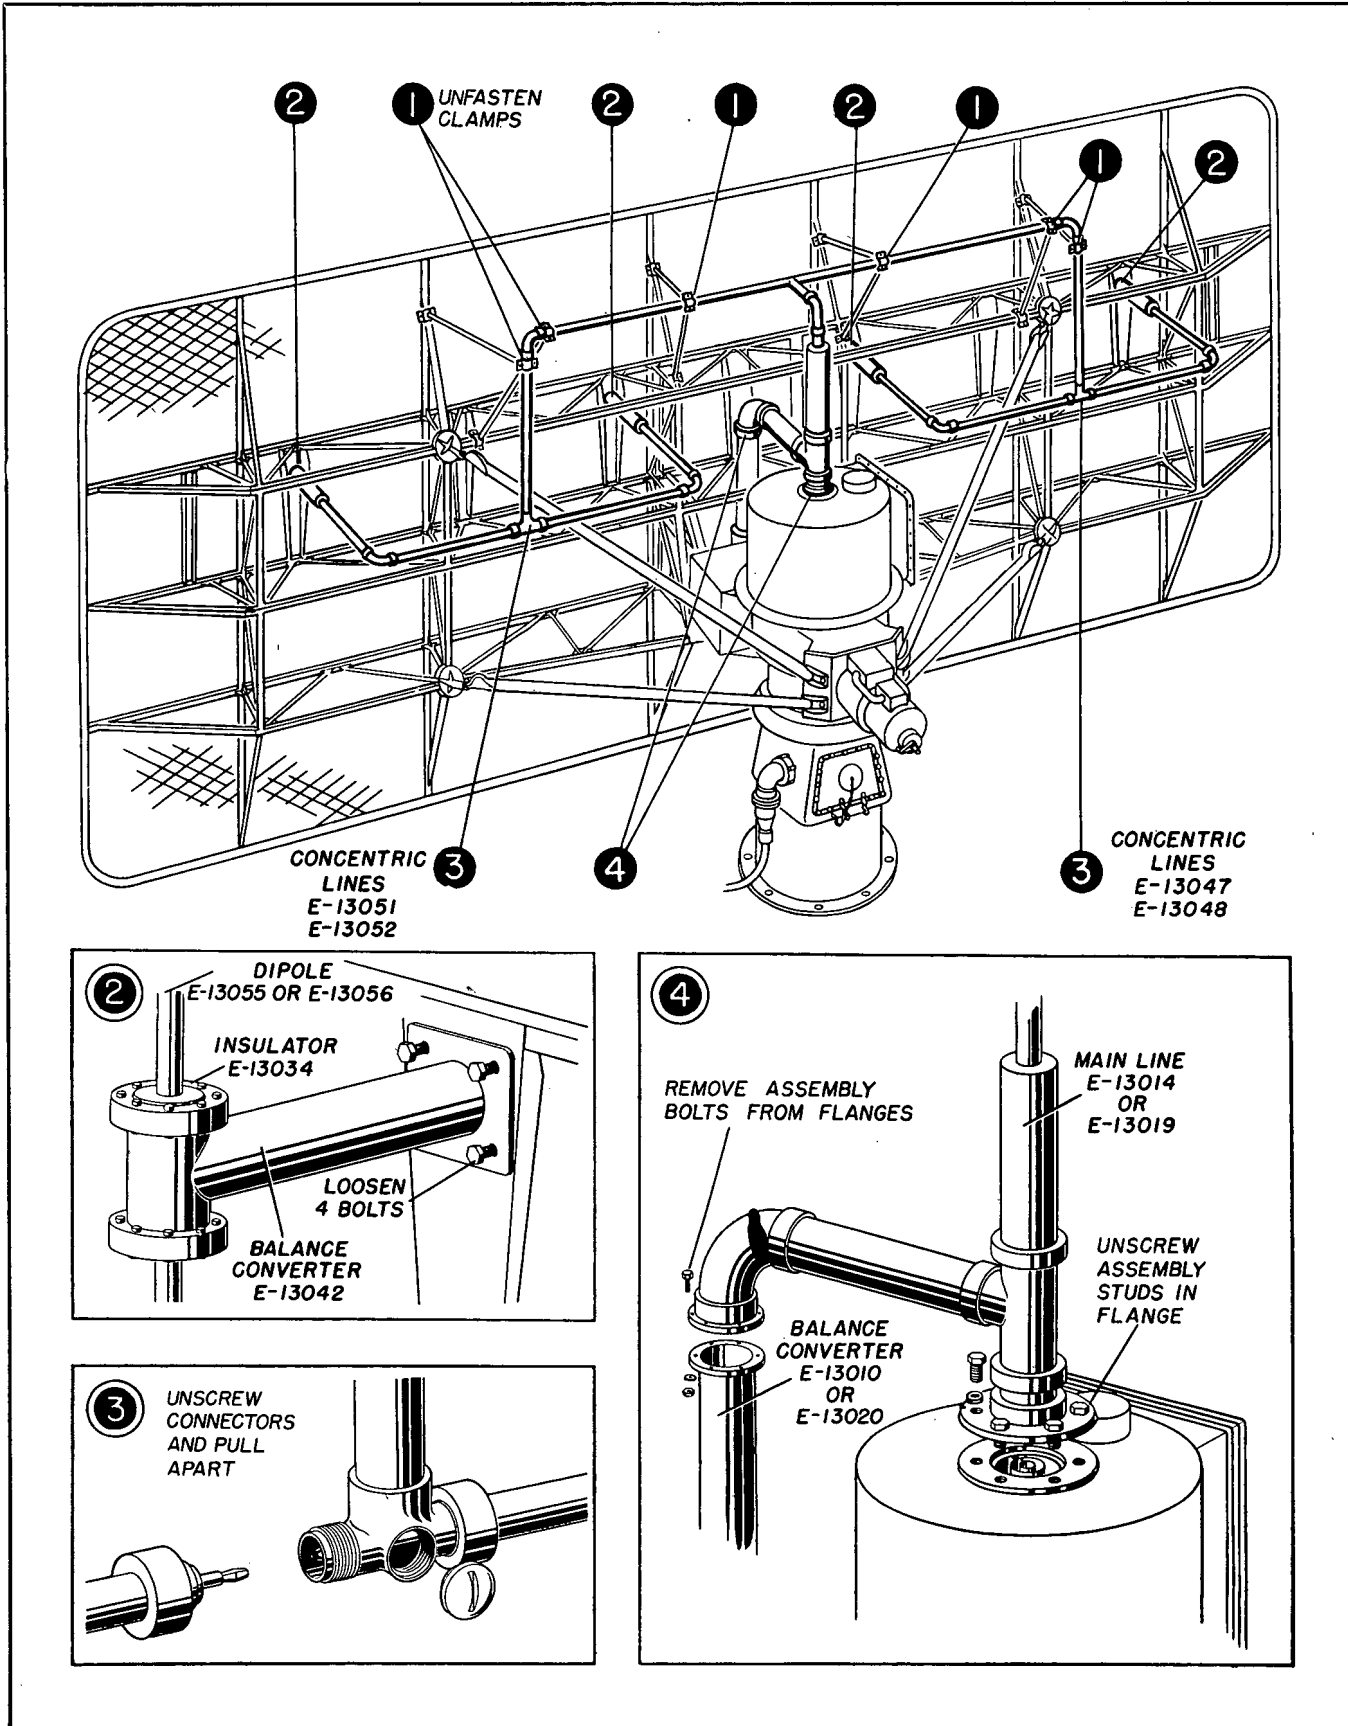
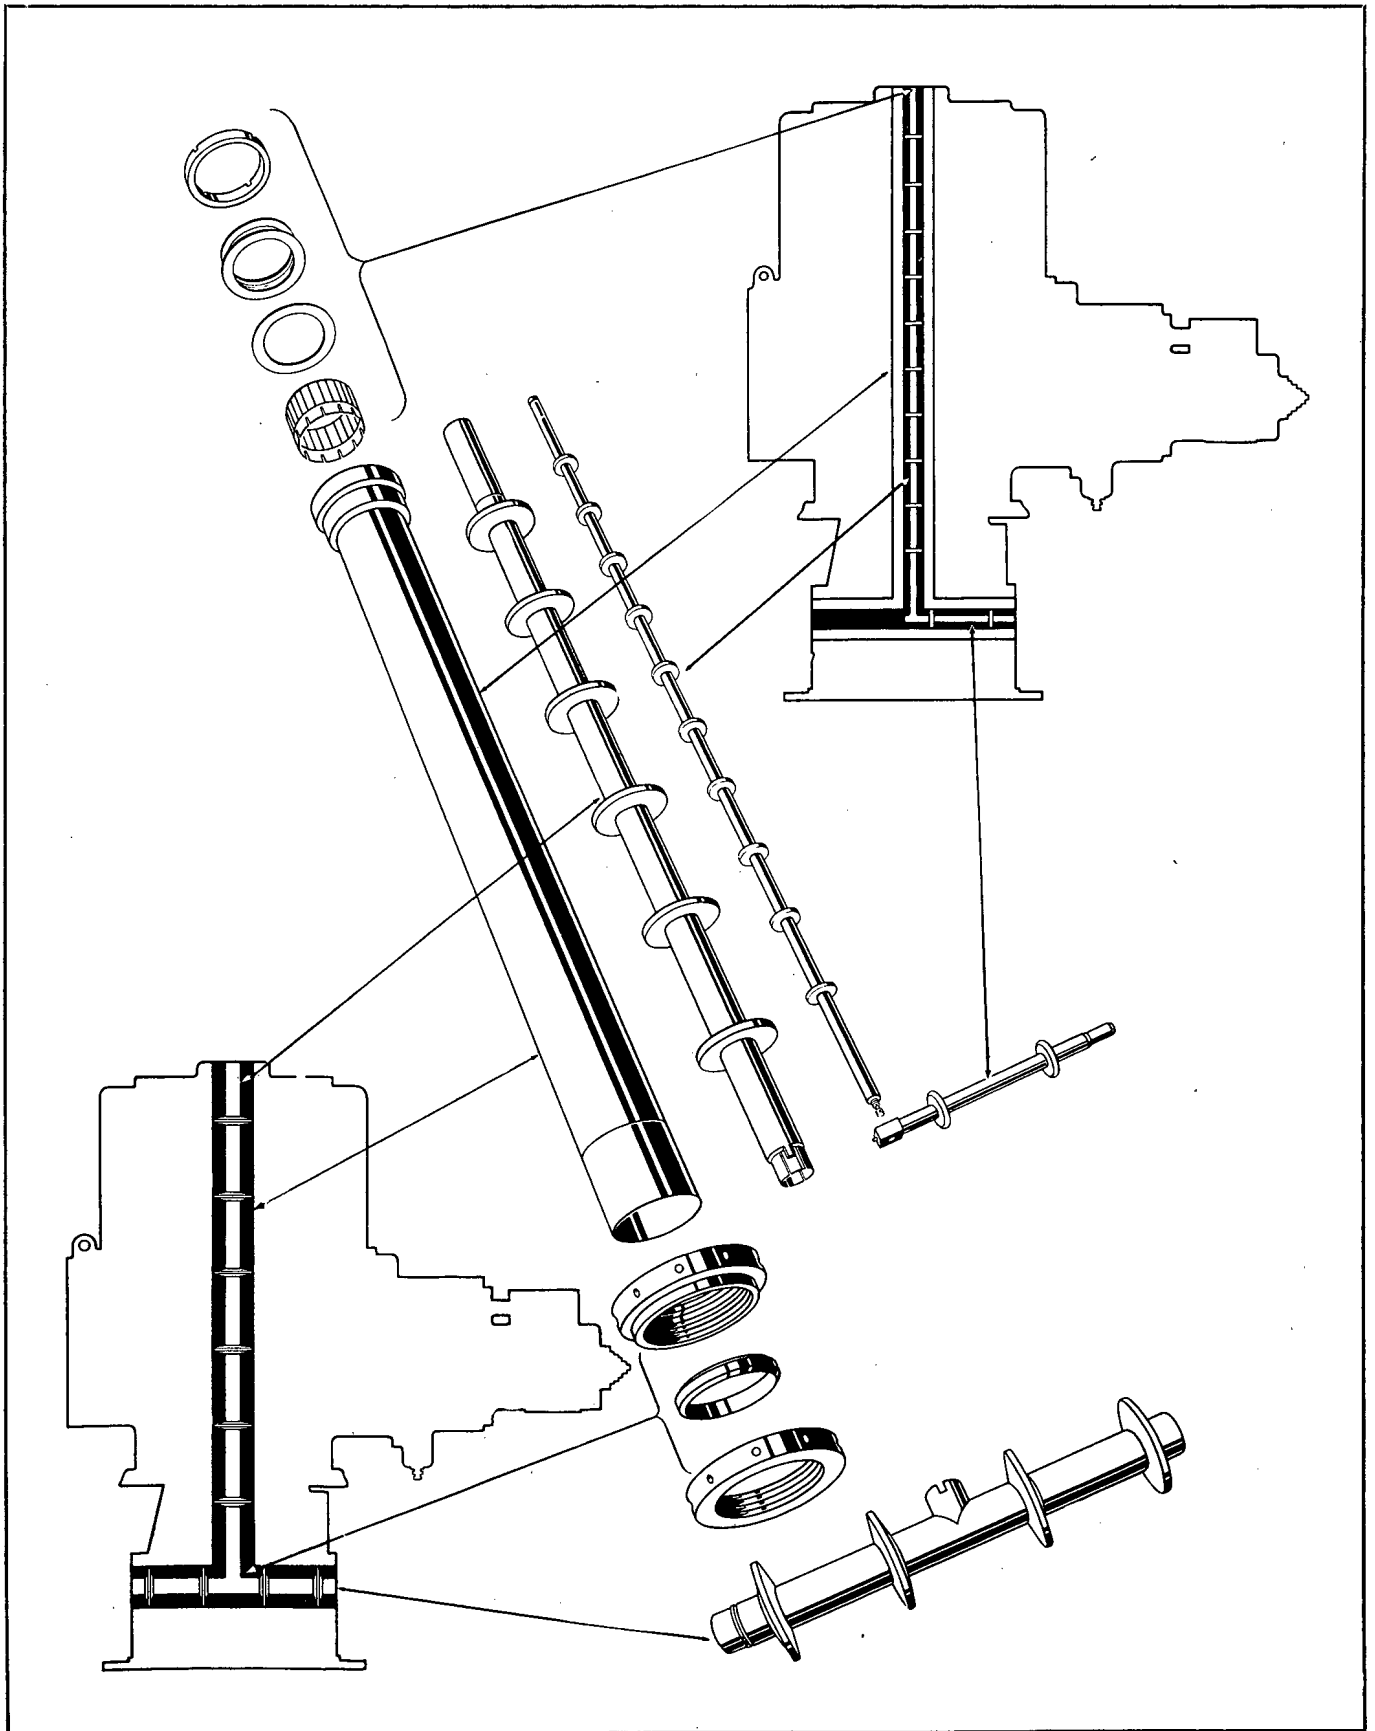
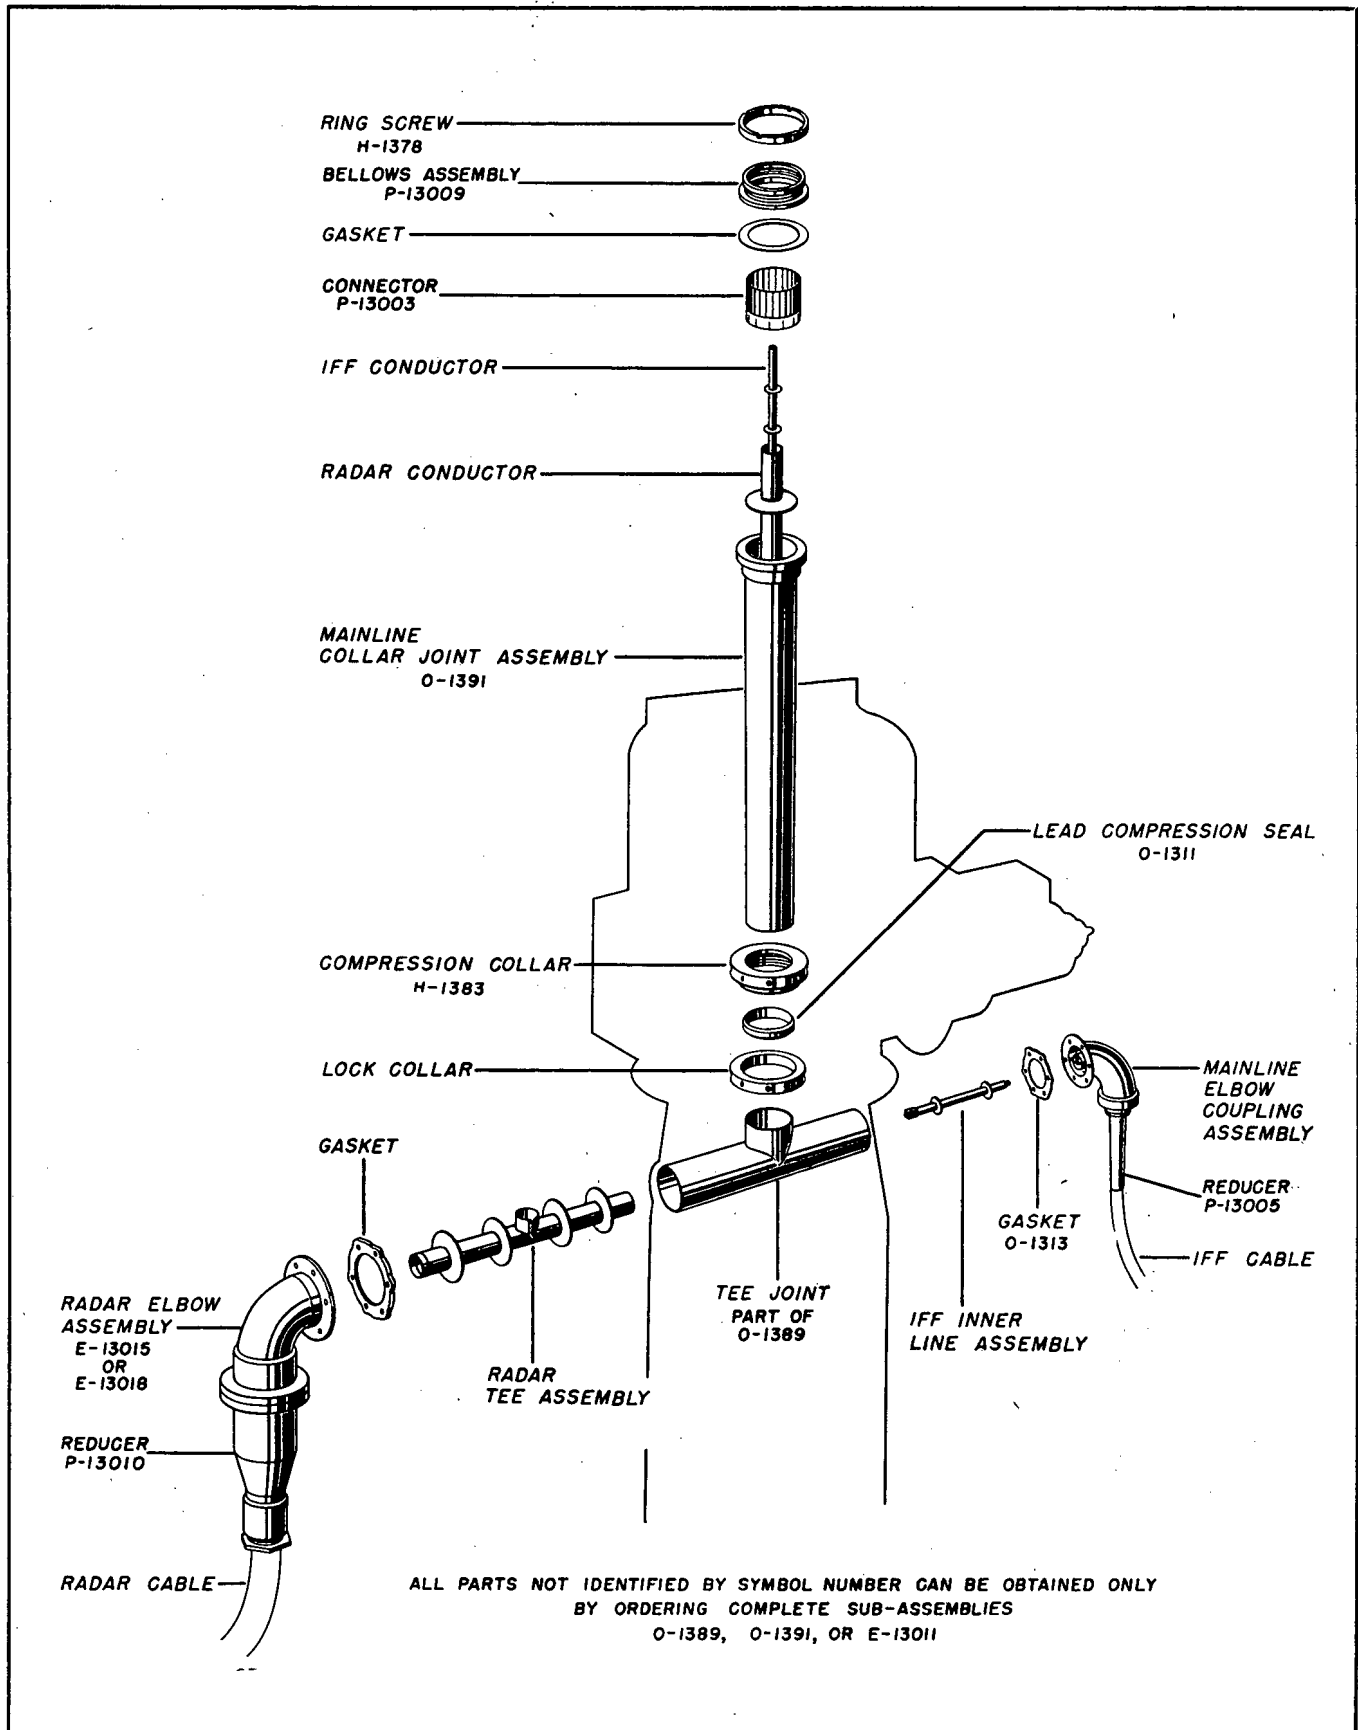
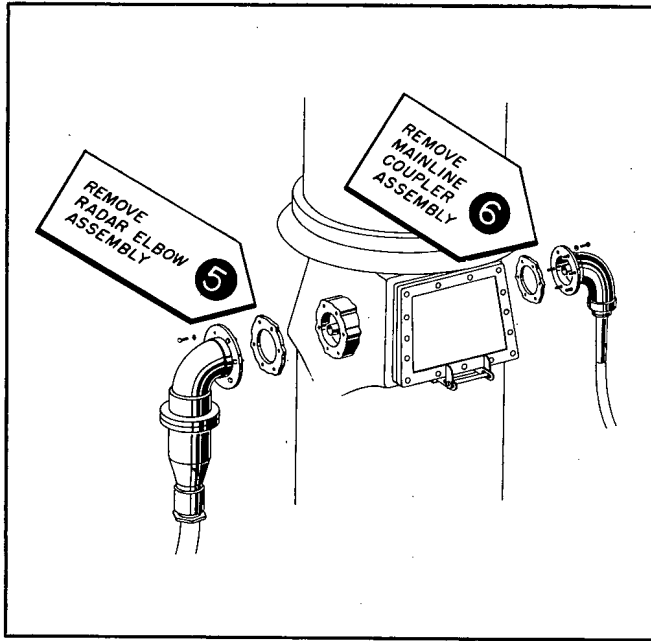

Figure 7-87. Disassembly of IFF Transmission Line
Figure 7-88. R-F Lines in Antenna Pedestal, Schematic Diagram
Figure 7-89. R-F Lines in Antenna Pedestal, Exploded View
Figure 7-90. Disconnecting R-F Lines at Base of Pedestal
(1) In any disassembly work on the Antenna Pedestal, the Antenna assembly is removed as one piece. However, it is necessary to remove the IFF Antenna and transmission line separately whenever these parts suffer damage or whenever it is necessary to change the IFF frequency band. The removal of the IFF transmission line is shown in Fig. 7-87. The first step is to remove the clamps that hold the transmission line to the frame as indicated in Step 1 in Fig. 7-87. If only the transmission line is to be removed, loosen the mounting bolts that secure the antenna bazookas to the frame as shown in Step 2. This permits the T-joints on the transmission line to come
apart. The disassembly of the T-joints is shown in Step 3. Unscrew the knurled nuts on each side of the T-joints and pull the line apart. Whenever this step is reversed in assembly, be sure that the banana plug on the end of the inner conductor is inserted properly in the T-joint. The plug on the side can be removed if necessary, so that the inner conductor of the T-joint can be seen. Step 4 shows the removal of the transmission line from the dome of the Antenna Pedestal and the top of the bazooka of the radar antenna. After this step is performed, the transmission line may be lifted out of the brackets. The line is installed by reversing the steps shown in Fig. 7-87.
(1) Whenever it is necessary to disassemble the r-f lines in the Antenna Pedestal, it is necessary to remove the antenna assembly from the Pedestal or to remove the IFF transmission line. Since only one person is required to remove the IFF transmission line, this is generally the most logical method to employ. Therefore, the steps shown in the illustrations accompanying this paragraph are numbered as a continuation of the procedure performed in Fig. 7-87. Fig. 7-88 continues the procedure begun in Fig. 7-87, by showing schematically the parts in the r-f line assembly and their location in the Pedestal. Fig 7-89 shows an exploded view of the parts in the r-f line which may be used for parts identification.
(2) After Step 4 in the removal of the IFF transmission line (see Fig. 7-87), remove the elbow assemblies as shown in Fig. 7-90. These parts are located at the base of the Pedestal. They should be removed in the manner shown and when they are replaced, new gaskets should be used.
(9) The r-f lines are reassembled by reversing the steps shown in Figs. 7-87 to 7-96.